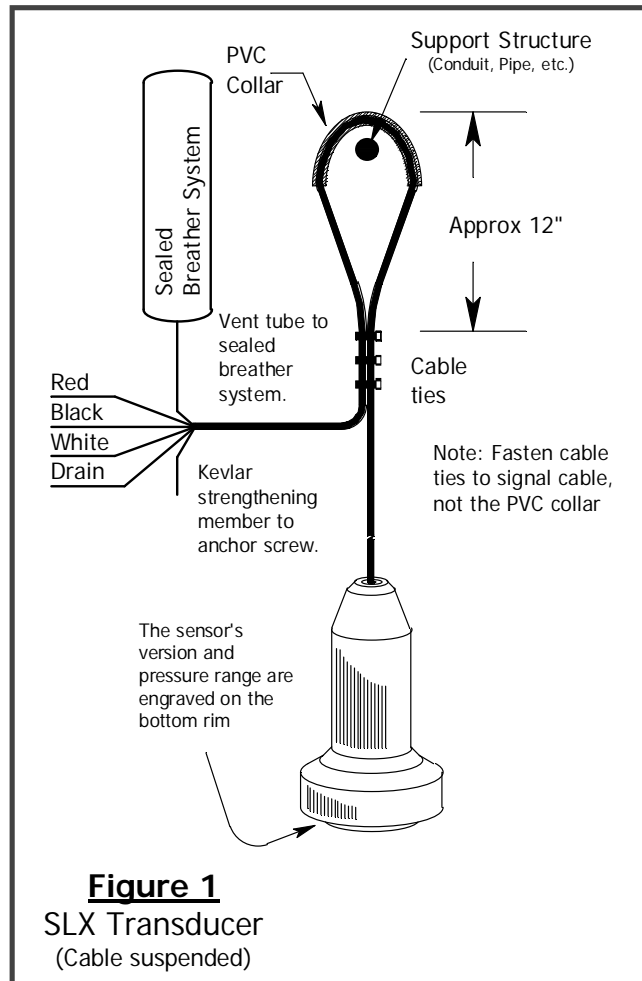

Figure 1
- 4) Secure the transducer's cable over the support structure by applying several cable ties¹ separated by approximately 4 inches (Ref Fig 1).